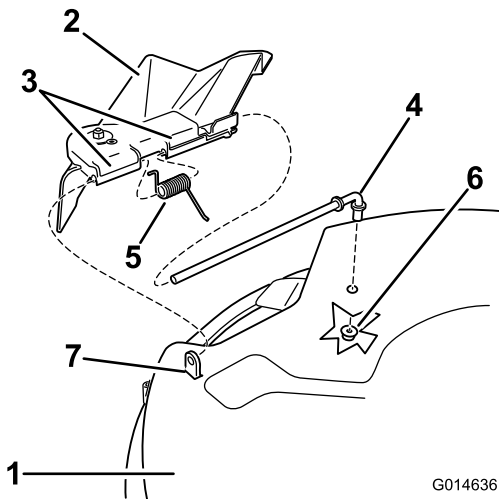

Figure 57
2. Remove the nut (3/8 inch) from the rod under the mower (Figure 57).
3. Slide the rod out of the short stand-off, spring, and grass deflector (Figure 57).
5. Replace the grass deflector (Figure 57).
7. Place the spring on the rod, with end wires down, and between the grass deflector brackets. Slide rod through second grass deflector bracket (Figure 57).
9. Secure rear end of rod into the mower with a nut (3/8 inch) as shown in Figure 57.
1. Locate items shown in Figure 57.